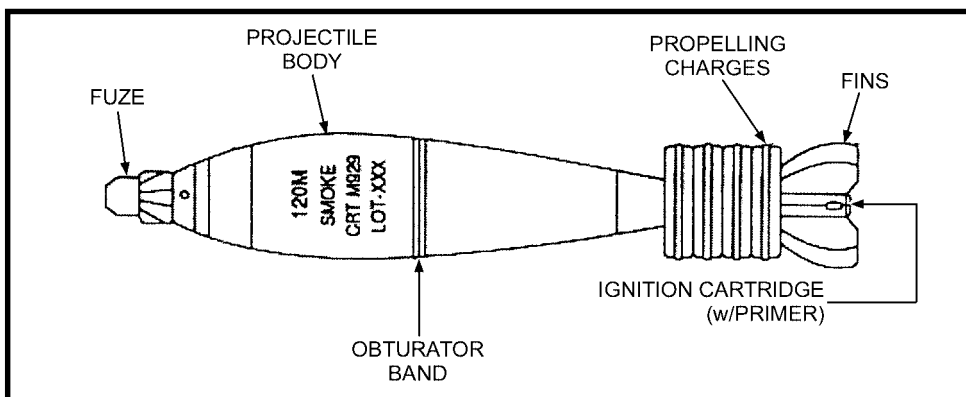

Figure 7-14. M929 smoke cartridge.
f. **M929 Smoke Cartridge** (Figure 7-14, page 7-34).
- (1) Type and use: Smoke (white phosphorus); screening and spotting.
- (2) Identification: Light green with light red markings.
- (3) Components: M745 PD fuze, M230 propelling charge.
- (4) Maximum range: 7,200 meters at charge 4.
- (5) Minimum range: 200 meters at charge 0.